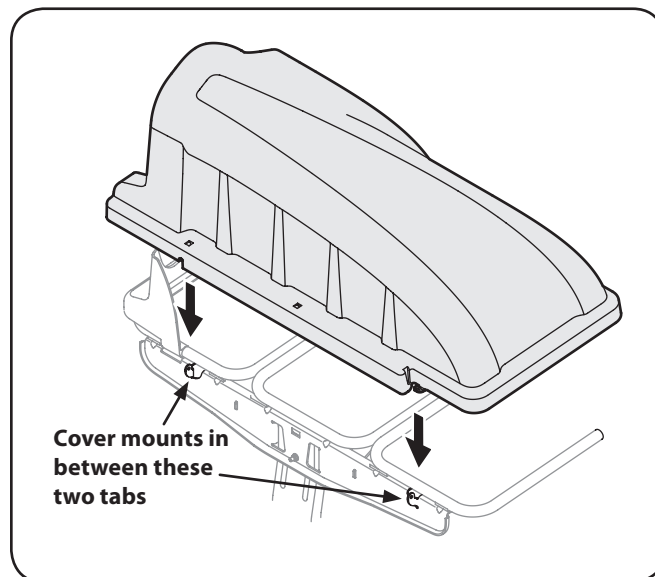

Figure 4-12
5. Install the bagger cover onto the bag support assembly, as seen in Figure 4-12. The plastic cover goes inside of the two mounting tabs.